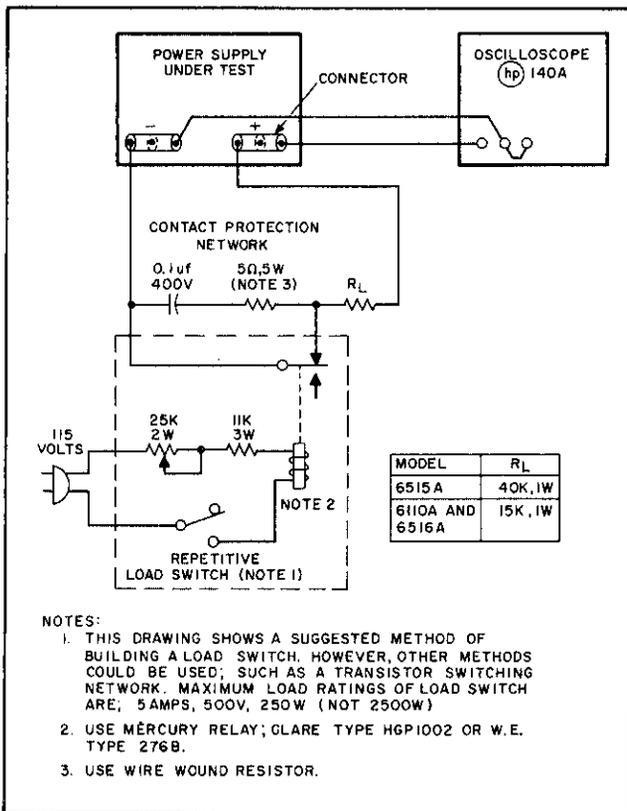

Figure 5-7. Transient Recovery Time, Test Setup
A mercury-wetted relay, as connected in the load switching circuit of Figure 5-7 should be used for loading and unloading the supply. When this load switch is connected to a 60 Hz AC input, the mercury-wetted relay will open and close 60 times per second. Adjustment of the 25K control permits adjustment of the duty cycle of the load current switching and reduction in jitter of the oscilloscope display.
- Connect test setup as shown in Figure 5-7.